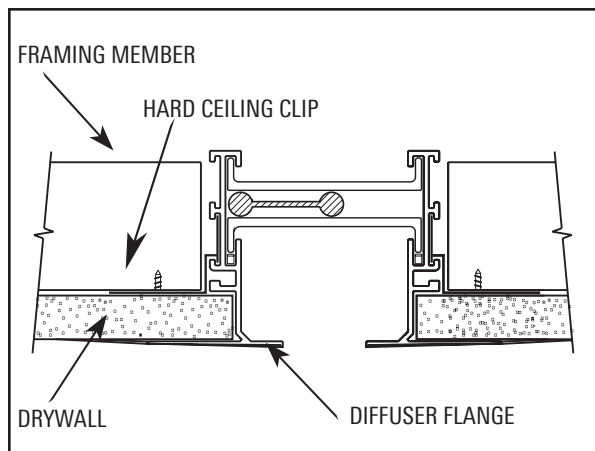

Figure 8. Drywall Installation
- Slide the Drywall tightly between the mounting clips and the AIR-TRAC™ Flange as shown in Figure 8. For ease of installation, insert the tapered edge of the Drywall into this opening. For the best fit, slide the edge of the Drywall all the way to the vertical leg of the frame.